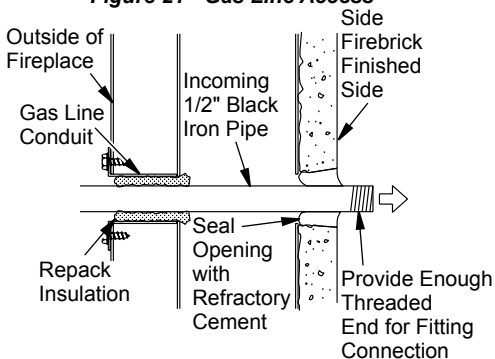

Figure 22 - Gas Line Installation
3. Run a 1/2" black iron gas line into fireplace through the rear at gas line conduit sleeve (if using a raised platform, add height). Provide sufficient gas line into fireplace chamber for fitting connection (see Figure 22).